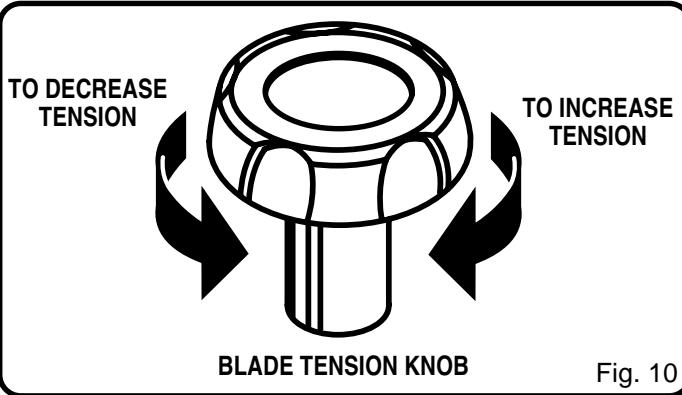

Fig. 10
See Figures 10 and 11.
- Before using the band saw, turn the blade tension knob on the top of the saw clockwise to engage tension. See Figure 10.